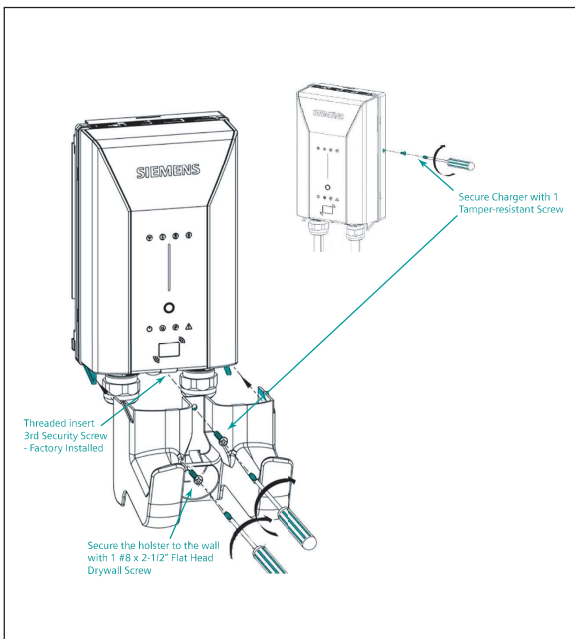

Figure 5. Secure the charger and mount the holster
3. Standard installation (Figure 5): Drill pilot holes and use the kit-supplied lag screw (#8 x 2-1/2" drywall screw) to secure the holster to the wall stud.